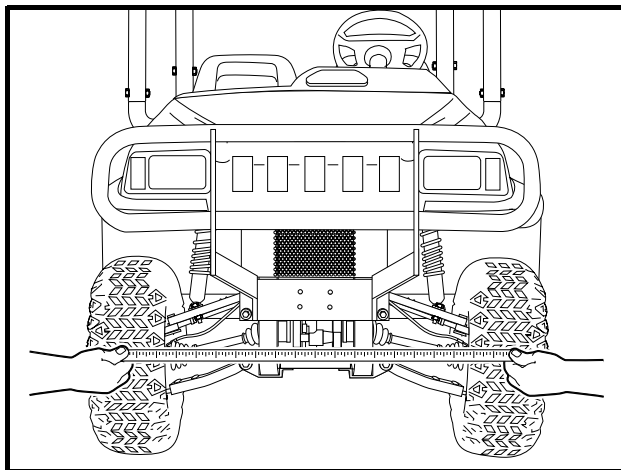

Figure 7-23 Measure Toe-in
3. Roll the vehicle forward one-half wheel revolution until the marks appear on the forward facing surfaces of the tires at the same height as the center of each hub. Measure the distance between the marks (Figure 7-23, Page 7-12). **See following NOTE.**